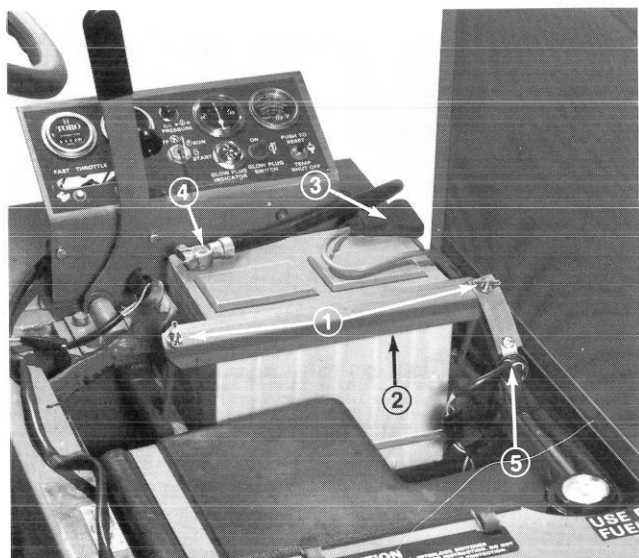
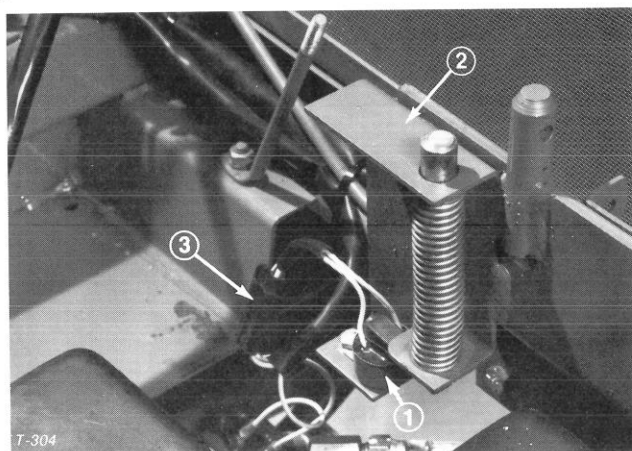

Figure 5
Figure 6
2. Mount seat support bracket to frame (Fig. 6).
2. Remove two wing nuts and the hold down strap that secure battery and seat switch in place (Fig. 5). Lift battery out of Chassis. Keep wing nuts and hold down strap in a safe place for later use.
3. Remove seat switch from shipping bracket (Fig. 5) and mount to seat support bracket using same fasteners (Fig. 6). Connect switch connector to main wire harness connector (Fig. 6).
3. Remove seat switch from shipping bracket (Fig. 5) and mount to seat support bracket using same fasteners (Fig. 6).
1. Install battery and secure with hold down strap and wing nuts (Fig. 5). Remove tape over ends of each cable.
2. Slide the red, positive battery cable (Fig. 5) onto positive battery post and tighten nut securely.
3. Slide the black, negative battery cable (Fig. 5) onto negative battery post and tighten nut securely.
4. Coat both battery connections with either Grafo 112X (skin-over) grease, Toro Part No. 505-47, petroleum jelly or light grease to prevent corrosion and slide rubber boot over positive terminal (Fig. 5).